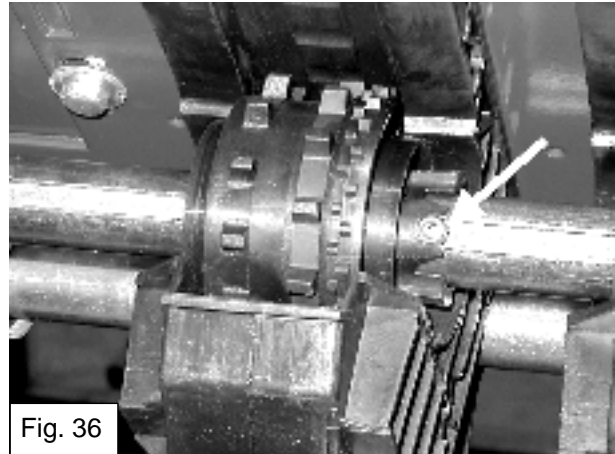

Fig. 36
- Using a pointed tool, extract the key from the selected seed roller (fig. 36).